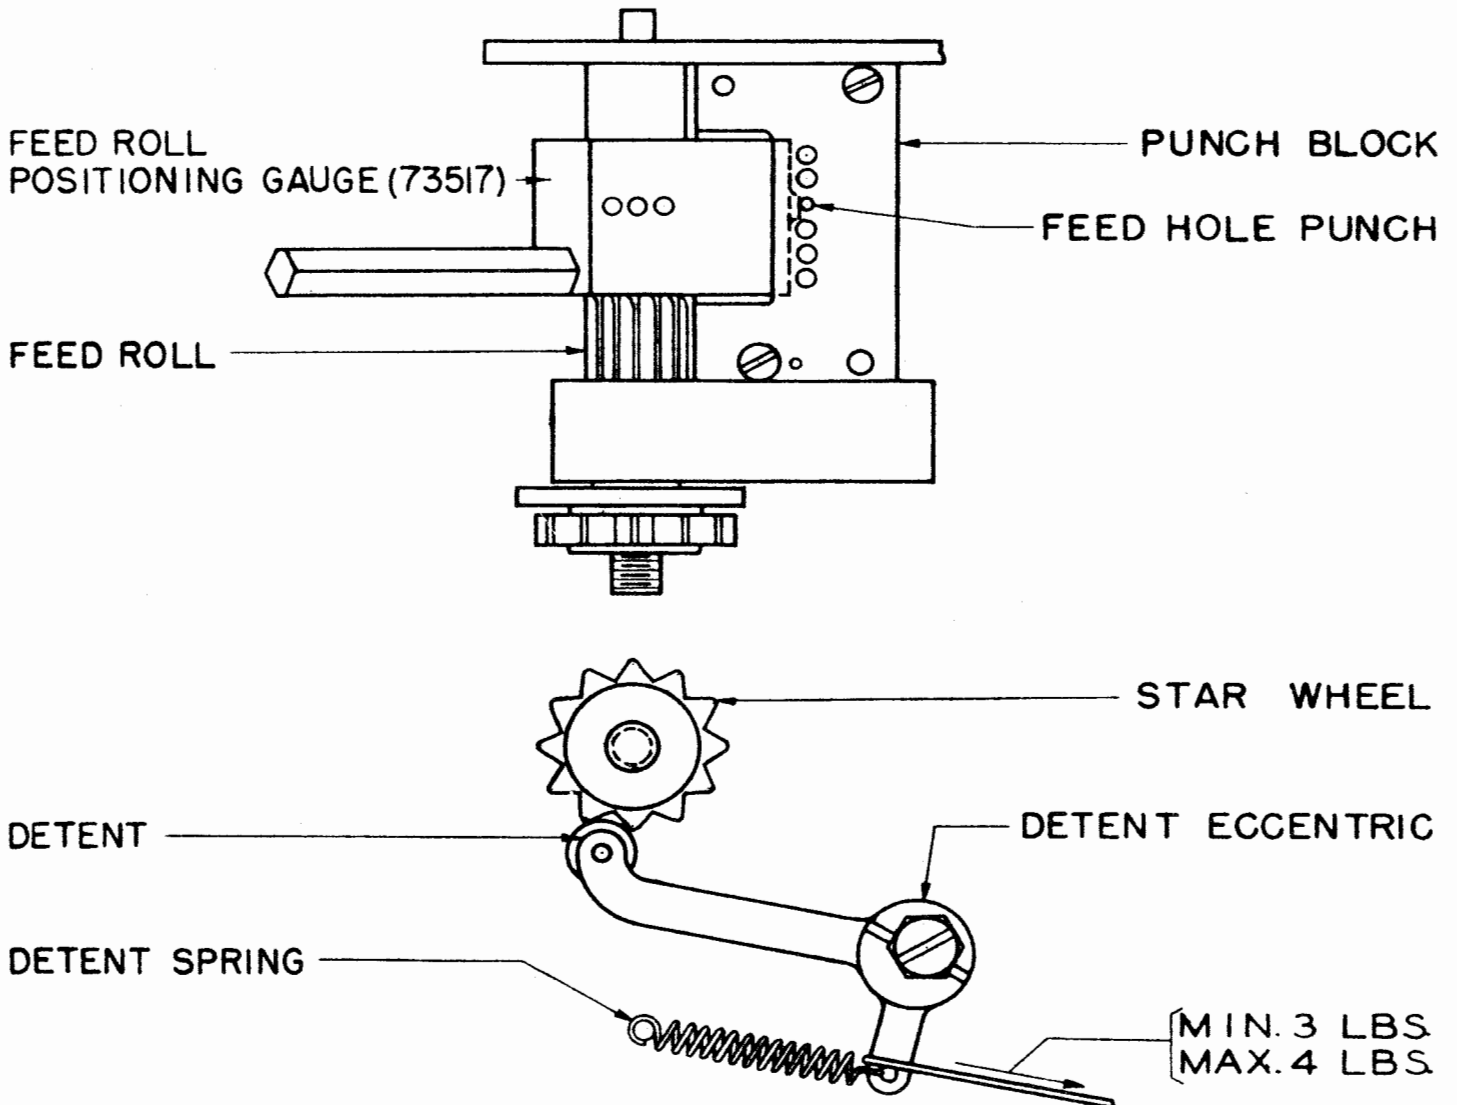
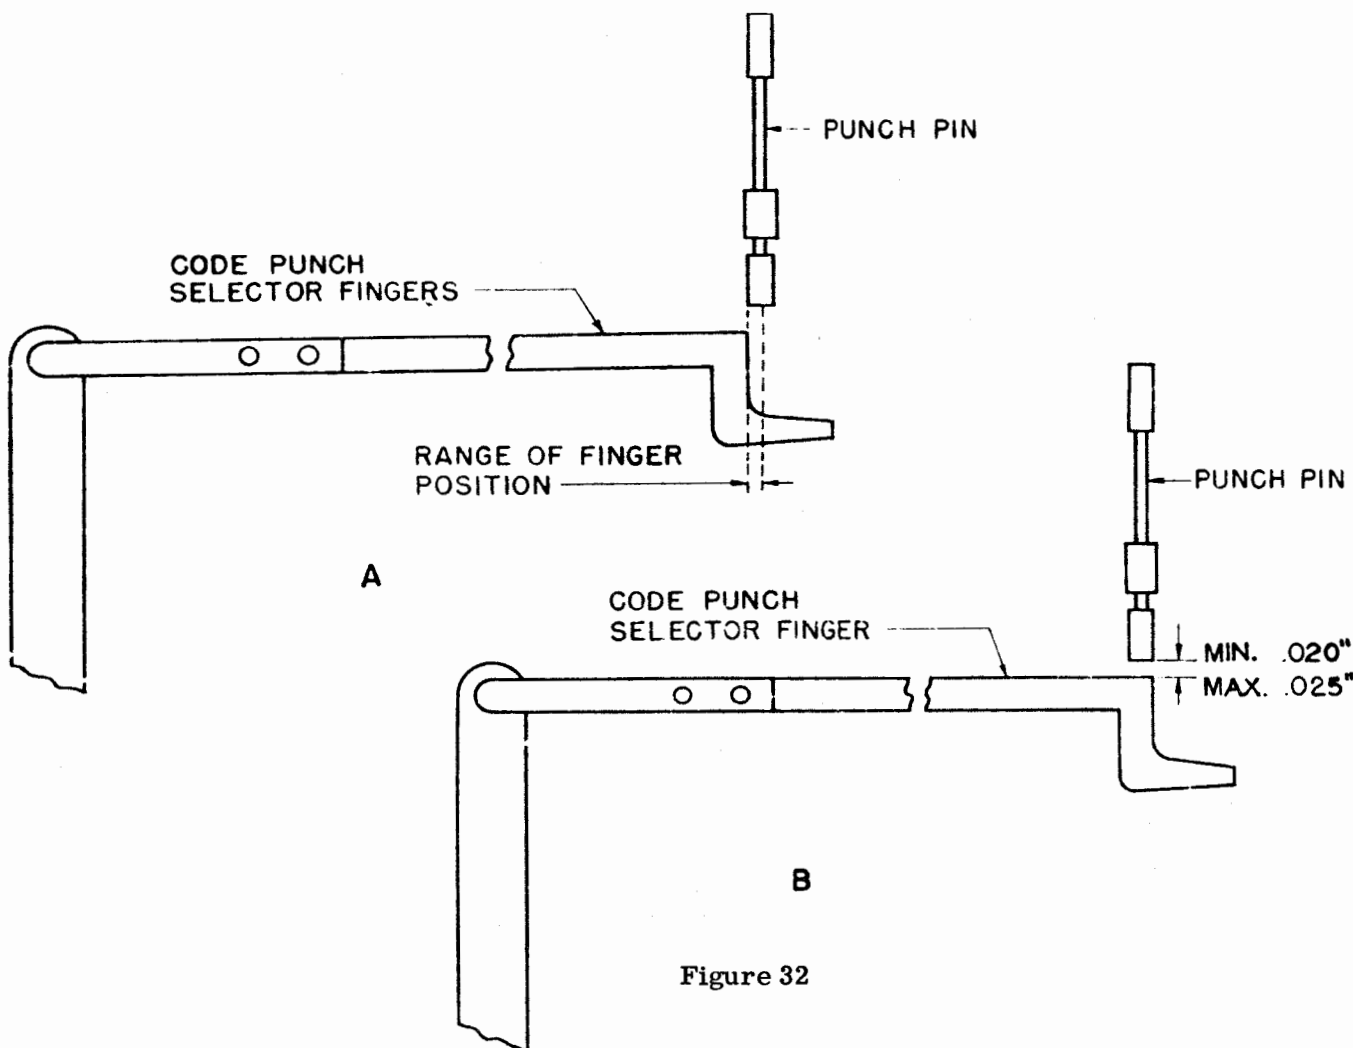

Figure 31
Figure 32
To Adjust: Position feed-roll-detent eccentric so that the feed pin centers in the middle hole of a TP73517 gauge when the latter is inserted in the punch block with its projection against the feed punch. See Figure 31.
have a tension of minimum 3 pounds, maximum 4 pounds, measured when the detent roller starts moving from the star wheel. See Figure 31.
3.15 Punch-selector Fingers, except those for feed punch, should move freely in their guide slots, should line up with each other within 1/2 the diameter of the punch pins, and the ends of the uppermost sections of the fingers should line up as shown in Figure 31(A), when the M, LINE FEED, and LTRS keylevers are depressed simultaneously until stopped by the code bars. The limiting range of positions at which any of the code-punch-selector fingers should stop is shown in Figure 32(A). Gauge by eye. When checking this adjustment, hold the three keylevers depressed and take up the play of the selector levers and fingers in a direction to make the engagement with the punches a maximum.